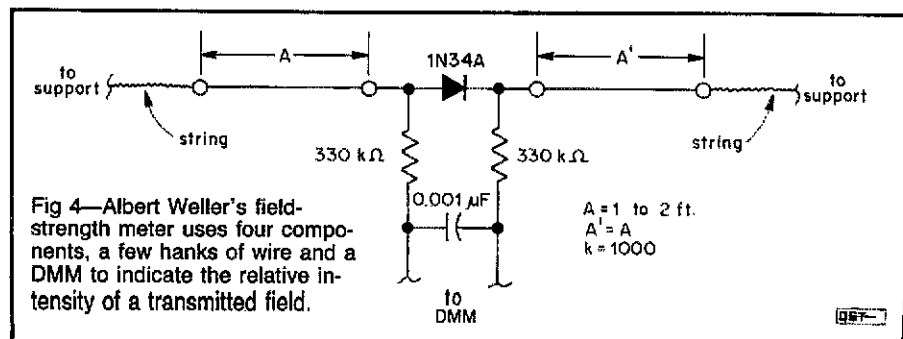

Fig 4—Albert Weller's field-strength meter uses four components, a few hanks of wire and a DMM to indicate the relative intensity of a transmitted field.
□ Fig 4 illustrates a field-strength meter that can be used for antenna or matching-network tuning. It consists of a short dipole antenna, a detector and a digital multimeter (DMM). With A and A' equal to about 2 feet, the field-strength meter provides adequate near-field sensitivity from 80 through 2 meters. (This is the range over which I've tried the circuit; the meter's actual useful range may be wider.)